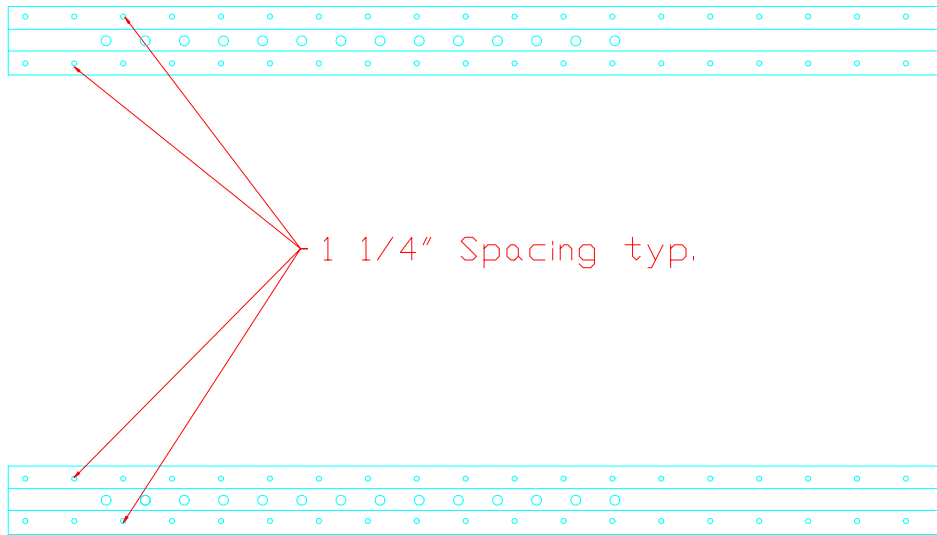

Figure 22.3.4
8) Replace tracks only and cleco into place. Drill #30 holes at 1 1/4" spacing along both flanges of both SA-27 tracks. Figure 22.3.4.